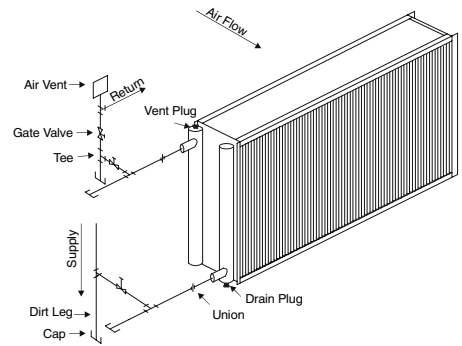

Figure 2 - Horizontal Airflow Diagram
6. General piping diagrams can be found in Figure 2 - Horizontal Airflow.
1. Isolate the coil from the rest of the system by closing the valves on both the supply and return lines (gate valves in Figure 2 - Horizontal Airflow Diagram).